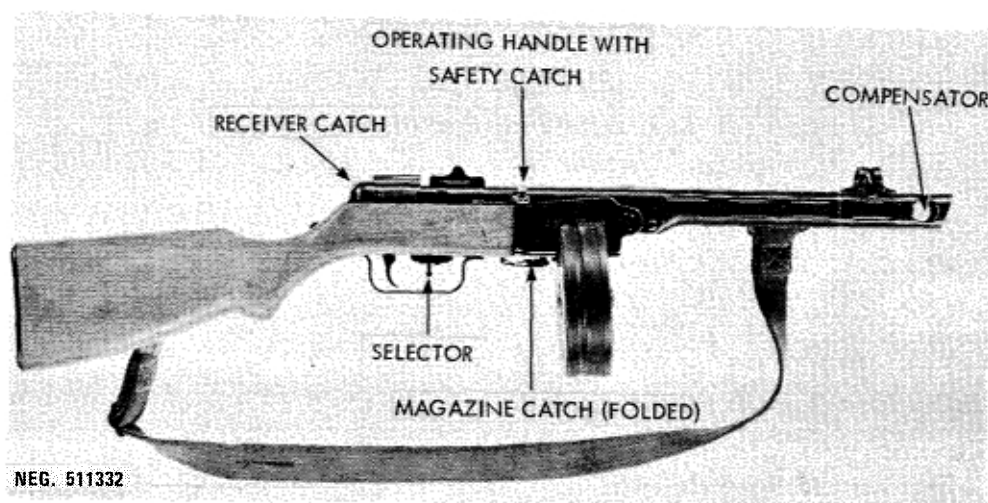

Figure 33. Soviet Model 1941 submachinegun (PPsh-41).
a. The Model 1941 or PPSH-41 submachinegun (fig 33) was produced in enormous numbers by the Soviet Union during World War II and, after the war, was distributed to many nations in the form of Soviet military assistance. Although obsolete in the Warsaw Pact countries, the PPSH-41 is still used by many other Communist countries and has been manufactured in Hungary, Iran, North Korea, and the People's Republic of China. The native designations of these weapons are: the Hungarian 48M submachinegun; the North Korean Type 49 submachinegun; the PRC Type 50 submachinegun. The national origin of these weapons can usually be determined by the receiver markings. If these markings are obscured, the rear sight offers a major clue. Soviet and Iranian PPSH-41's and Hungarian 48M's have V-notched rear sights; the North Korean Type 49 and the PRC Type 50 have aperture rear sights. Minor changes can be found in the design of various components, depending on the time and place of manufacture. Because these changes do not affect the handling or operation of the weapon, this manual will not cover them in detail. One extensively altered gun, the North Vietnamese K-50M submachinegun, is covered in section II, subsection C. The Germans, during World War II, and the Iranians, after the war, converted some PPSH-41's to use the 9x19-mm Parabellum cartridge; these versions are now rarely found.
Note: Drums are not always interchangeable; if a drum magazine is used and the serial numbers on the drum and on the gun do not coincide, the drum/gun combination should be test fired prior to use. Slide the safety catch (fig 33) on the operating handle outward, if necessary, and draw the handle fully to the rear.
Position the selector (fig 33) according to the type of fire desired (forward for automatic, rearward for semiautomatic). If immediate firing is not anticipated, place the weapon on safe by pressing the safety catch inward into the slot in the receiver. Slide the safety catch out to the ready position when ready to fire.